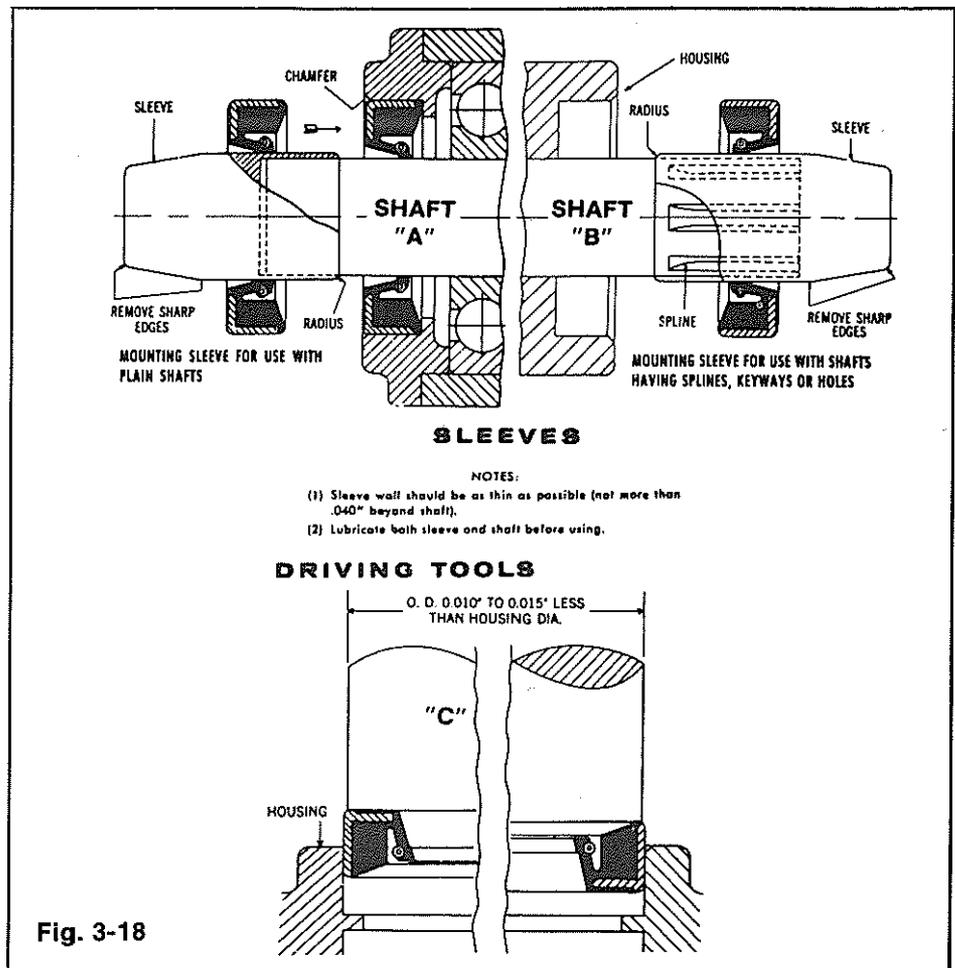

Fig. 3-18
- (Fig. 3-18)**
8. Press seal into housing with a smooth, uniform pressure applied by a press-fitting tool (C). If shaft is already in place, use a sleeve-type press-fitting tool.
10. When the shaft is assembled from reverse side of sealing lip, no special precautions are required other than removing all burrs and sharp corners from shaft. When the shaft enters against the sealing lip, a tapered sleeve made to the dimensions shown at (A) must be used. Use a sleeve as shown (B), when seal must pass splines, keyways or holes. The edges of the splines, keyway or holes should be rounded and lubricated with a heavy grease if the use of an assembly sleeve is not possible.